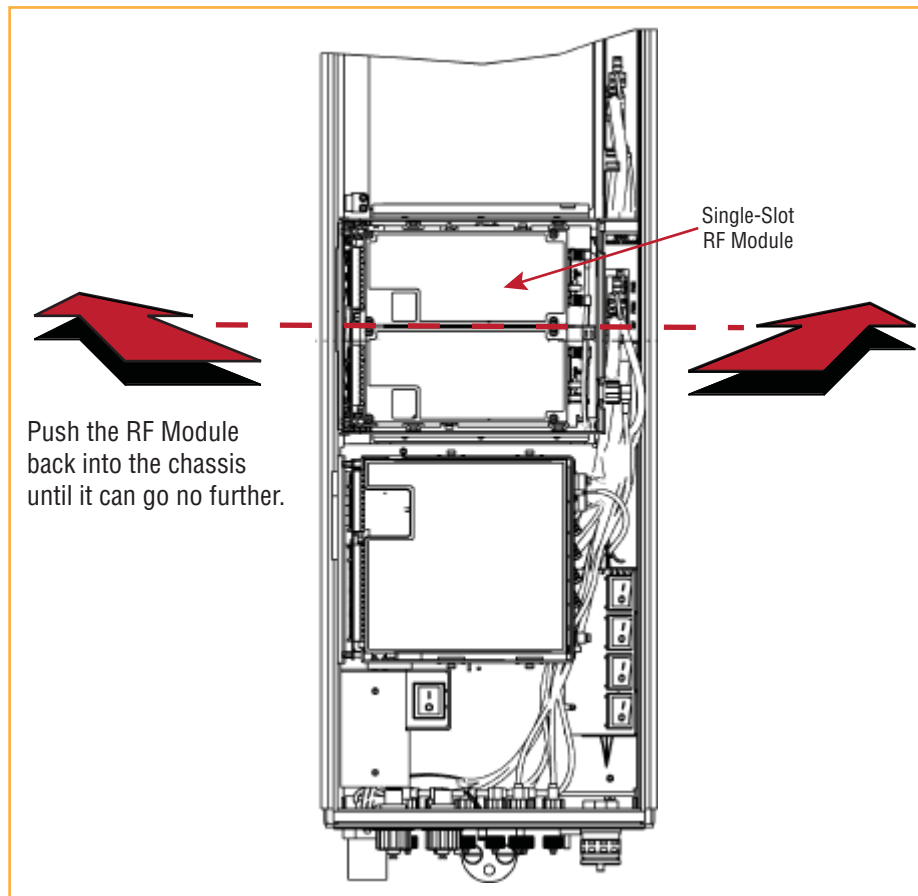

Figure 15. Seating a Single-Bay RF Module
- For Single-Bay RF Modules, see Figure 15 on page 27.